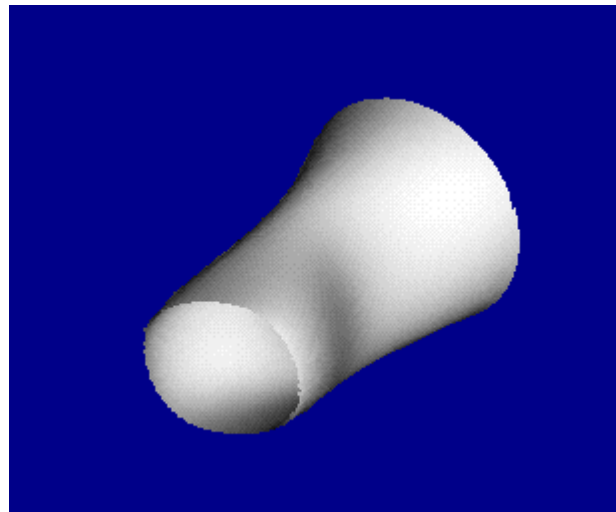

Figure 6
7. The surfaces from Step 4 and Step 6 can now be merged into one uniform quilt with **Feature, Create, Surface, Merge, Join**. Additionally, the extruded surfaces from Step 2 can be added to a layer and blanked. (Figure 6)